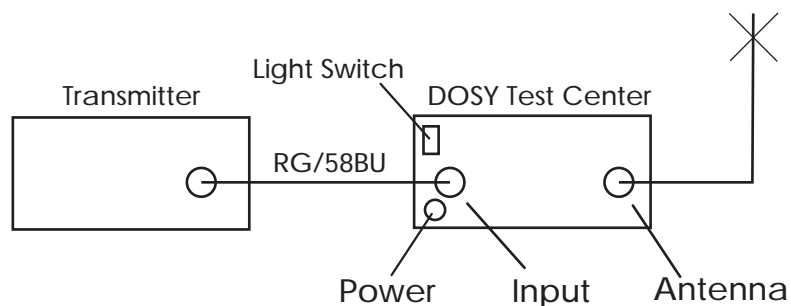

Figure 1
In order to operate the Frequency Counter (#4 Fig. 1), the unit must be plugged in. Once the unit has power, the Frequency Counter will operate automatically, whenever the microphone is keyed.
The TFC-3001-S Test Center will indicate the power output (in watts) of your equipment at the point in the transmission line where you have installed the test center. To measure any power from 1 to 1000 watts, just set the RF Power Range Switch (#6 FIG. 1) to the appropriate range: 10, 100, 1000 watts. Key the transmitter and read the wattage on the corresponding scale of the RF Power Meter (#2 FIG. 1).
1. Operate SWR Set Control Switch (#7 FIG. 1) to Set Position.
2. Turn SWR RF Level Control (#5 FIG. 1) to Min.
3. Key transmitter and turn SWR RF Level Control clockwise (#5 FIG. 1) to give a full scale meter reading to Set Line on the SWR Meter (#1 FIG. 1).
1. Operate MOD SET Control Switch (#7 FIG. 1) to SET position.
2. Turn MOD RF Level Control (#8 FIG. 1) to Min.
3. Key transmitter and turn MOD RF Level Control (#8 FIG. 1) clockwise to give a full scale meter reading to Set on the Modulation Meter (#3 FIG. 1)
4. Operate MOD SET Control Switch (#8 FIG. 1) to MOD position. Key transmitter and talk or steadily whistle into the microphone. Read Modulation percentage directly on the modulation meter (#3 FIG. 1)